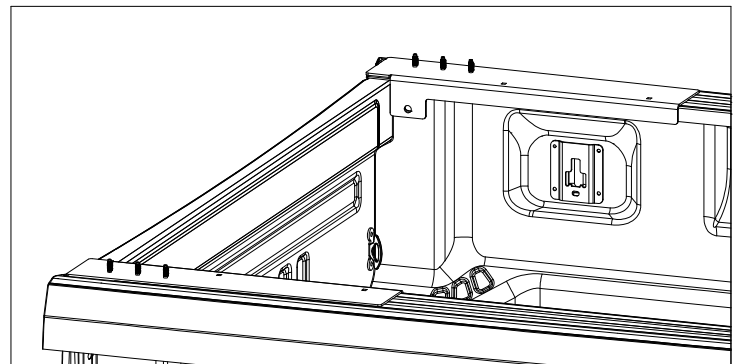
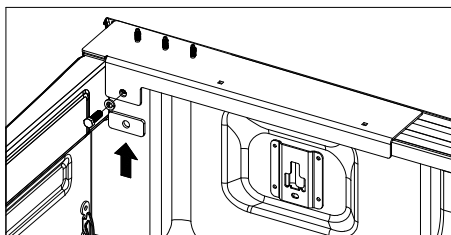

Figure A1: View looking at front of bed.
Figure B5
- 1. Verify proper fit of Cab Protector.** Place the bed protectors on the pickup sides as shown in Figure A1. Make sure the bed protector flange is pushed tightly against the front of the bed and the inside of the bed sides. Measure across the truck from the center of the middle threaded stud on the driver side to the center of the middle stud on the passenger side. Next, measure the distance between the two middle mounting slots on each side of the cab protector. The two measurements should be within 1/2" of each other.
2. **Install 1/2" hardware:** Place the bed protectors back on the bed sides, as shown in Figure A1. Locate the 1/2" cap screw, 1/2" lock washer and 1/4" thick spacer block. Place the spacer block between the flange of the bed protector and the outside of the stake pocket. With the lock washer on the 1/2" cap screw, pass the cap screw through the hole in the flange of the bed protector and spacer block, see Figure B5. Thread the cap screw into the mounting bracket installed earlier. Once the cap screw is most of the way in, push the bed protector towards the cab, then tighten the 1/2" cap screw to 80 ft-lbs.